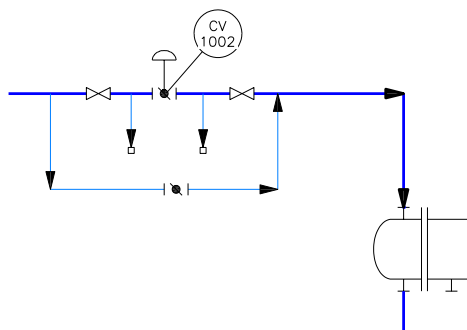

Figure 2-59 Secondary lines with plugs placed at their endpoints
12. Next, create two secondary lines connecting the steam inlet pipe, as shown in Figure 2-59.
13. Choose **Plug** from the **Piping Fittings** area in the **Fittings** tab of the **TOOL PALETTES - P&ID PIP**, and then place it at the endpoints of the secondary lines, refer to Figure 2-59.